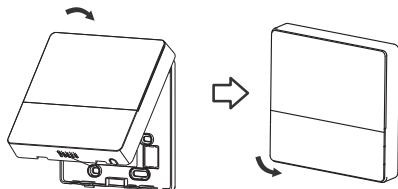

Fig 3-13
- After adjusting and then buckling the upper case, avoid clamping the wiring during installation. (Fig 3-13)